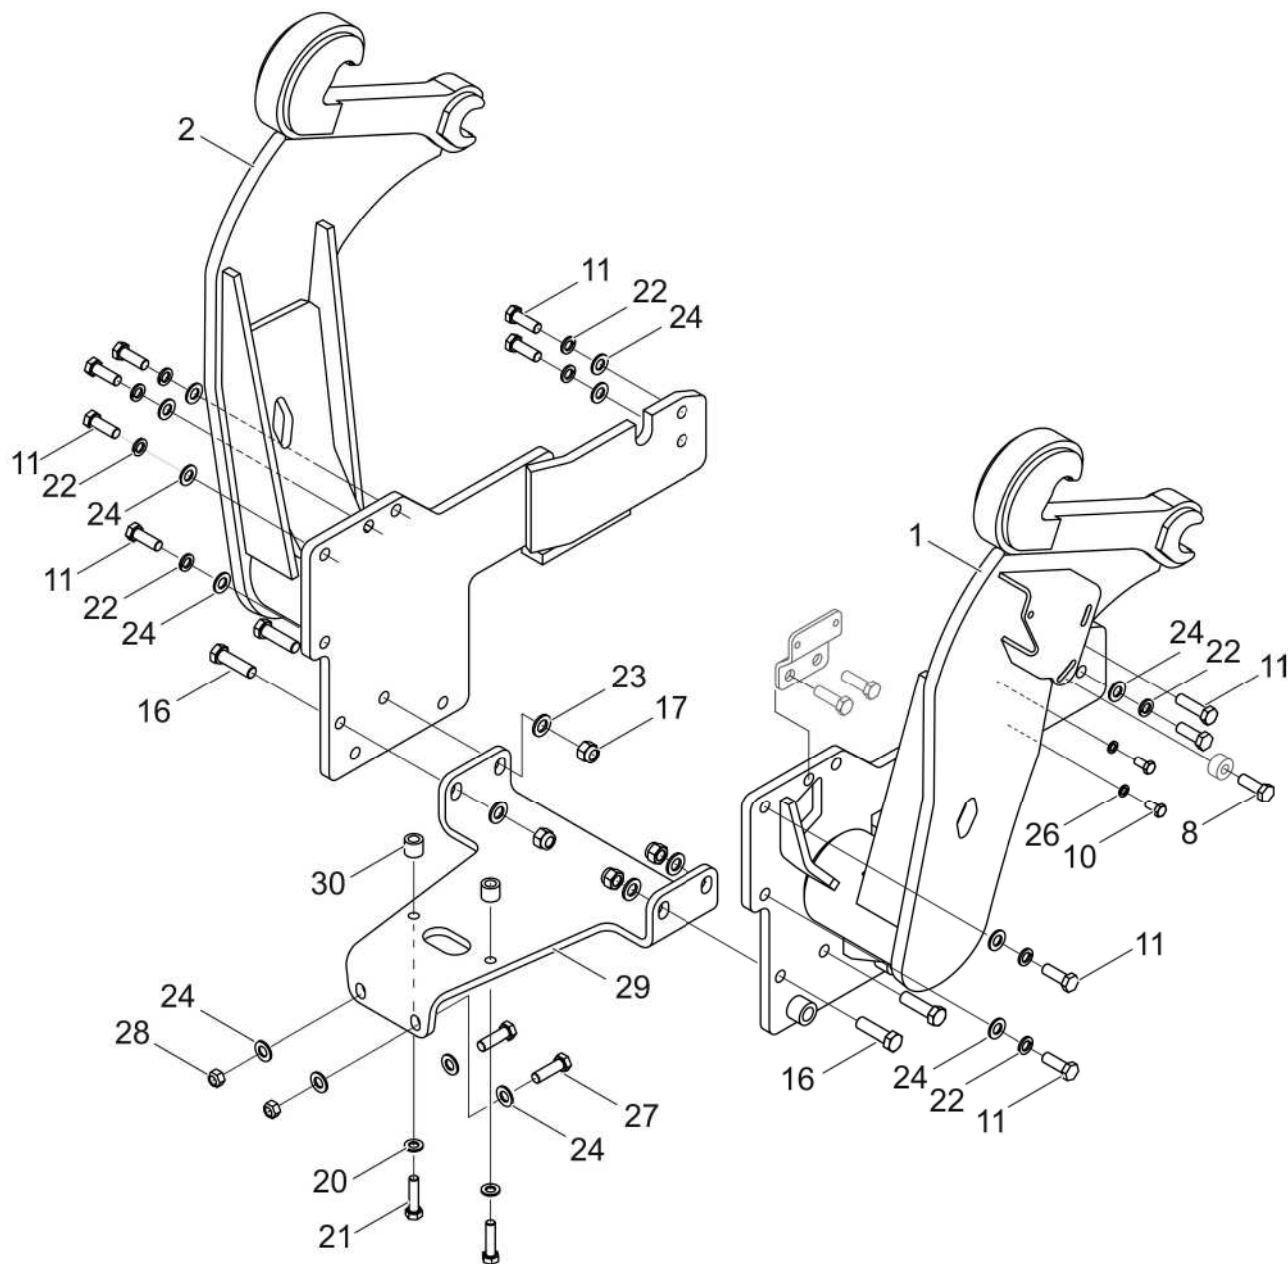

FIG. 4.4A Installation of the KIOTI DK451C tractor support frame with KB2375
(1) - left bracket, (2) - right bracket, (9) - bracket, (13) - bolt M10x20-8.8, (14) - bolt M14x1, 5x40-8.8, (20) - counter nut M16-8, (23) - bolt M16X80-8.8; (23)- spring washer Z12,2; (24)- spring washer Z10,2; (25)- spring washer Z14,3; (26)- washer 16-100HV; (30) - spacer bushing
In the KIOTI DK451C tractors equipped with KB2375 backhoe (FIG. 4.4A), remove the air pressure regulator and hydraulic hoses bracket before beginning assembly. Front and rear part of the brackets (1) and (2) fix using the bolts (8), (9) and (11) with washers (22) and